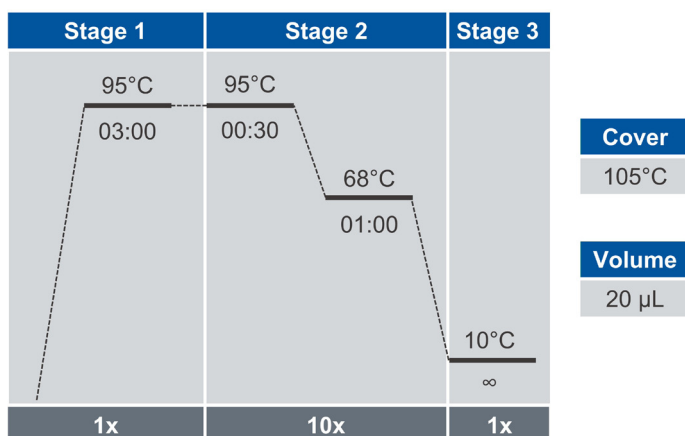

Figure 56. Olink Index PCR2 program
13. Click *Open* and select the program *Olink Index PCR2* (Figure 56). Click *Start*.